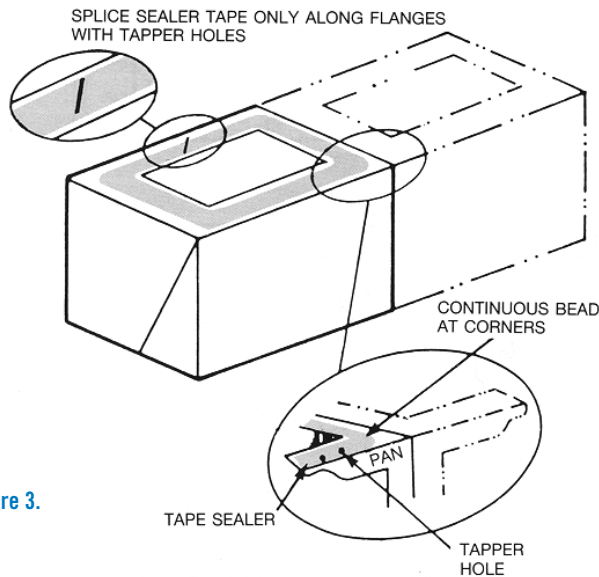

Figure 3.
- Apply the 25 mm flat (trapezoidal cross section) tape sealer around the periphery of the top flange of the panfan section as shown in Figure 3. This tape sealer must be centered directly over the centreline of the taper holes and on the centreline of the end flanges where there are no taper holes.